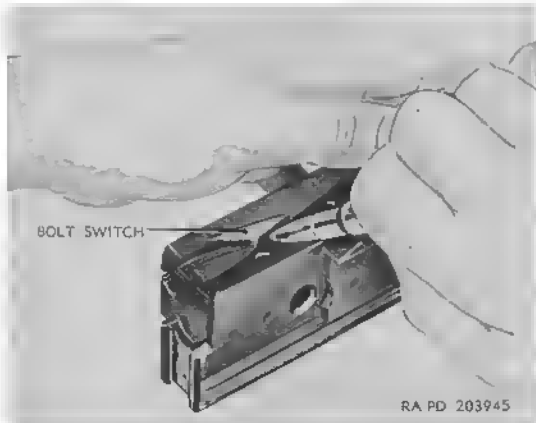

Figure 10. Removing bolt switches.
- (4) Using the nose of a cartridge, pry out the two bolt switches (fig. 10). Reposition bolt switches by inserting them in the holes on the adjacent track.
- (5) Replace the two $0.156 \times \frac{3}{4}$ spring pins.